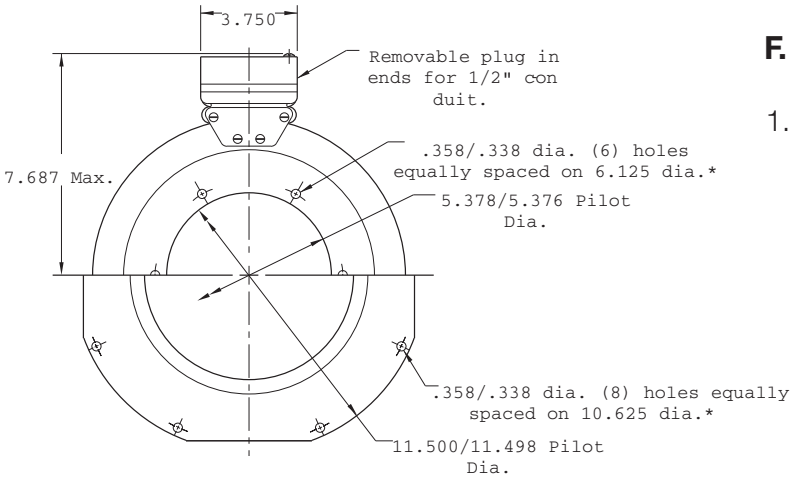

Figure 11
- Position the assembly to allow a gap of about 1/32-inch between the brake magnet and armature faces. (Figure 11)